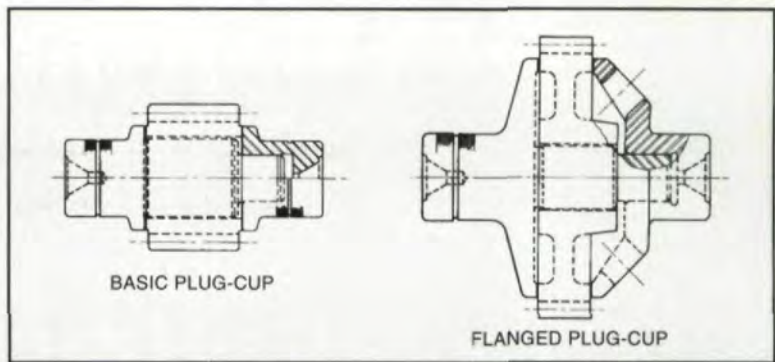
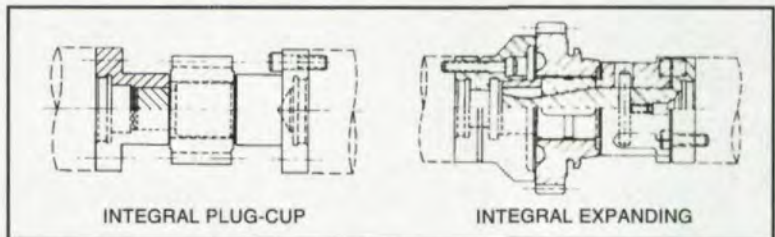

Fig. 15 - Typical hardened and ground work-holding arbors.
Fig. 16 - Integral work-holding arbors.
*The Machine Setup - Mounting the Work Gear.* The work gear should be shaved from the same locating points or surfaces used in the preshave operation. It should also be checked from these same surfaces. Locating faces must be clean, parallel, and square with the gear bore. Gears with splined bores may be located from the major diameter, pitch diameter, or minor diameter. When shaving from centers, the true center angle should be qualified and the surfaces should be free of nicks, scale, and burrs. Locating points of work arbors and fixtures should be held within a tolerance of 0.005 mm (0.0002"). The arbor should fit the gear hole snugly. Head and tailstock centers should run within 0.005 mm (0.0002") for dependable results. Gears should be shaved from their own centers whenever possible. If this is not possible, rigid, hardened, and ground arbors having large safety centers should be used (Fig. 15). Integral tooling is another popular method of holding the work piece, especially in high production. This consists of hardened and ground plugs, instead of centers, mounted on the head and tailstock (Fig. 16). These plugs are easily detached and replaced when necessary. They locate in the